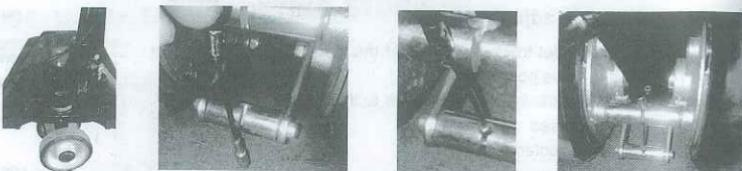

Fig.10: Progressive drive and parking brake
- Turn the pump 90 degree to right side, then pass through the brake cable behind the thrust plate.(Fig.10)